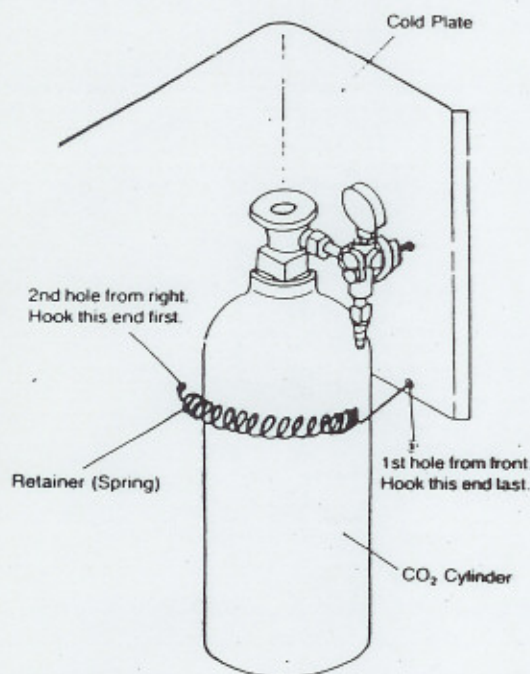

Fig. 2
- d. Place CO₂ cylinder at right rear corner inside beer dispenser cabinet in upright position. Fasten CO₂ cylinder with CO₂ cylinder retainer (spring) provided. Hook both ends of retainer to holes in cold plate. (See Fig. 2.)